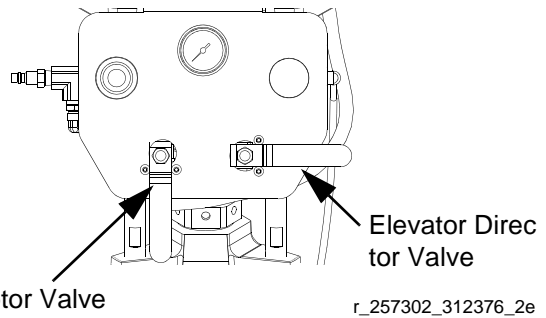

FIG. 7: L20c Air Control Panel
3. **For L20c Air Controls:** See FIG. 7.